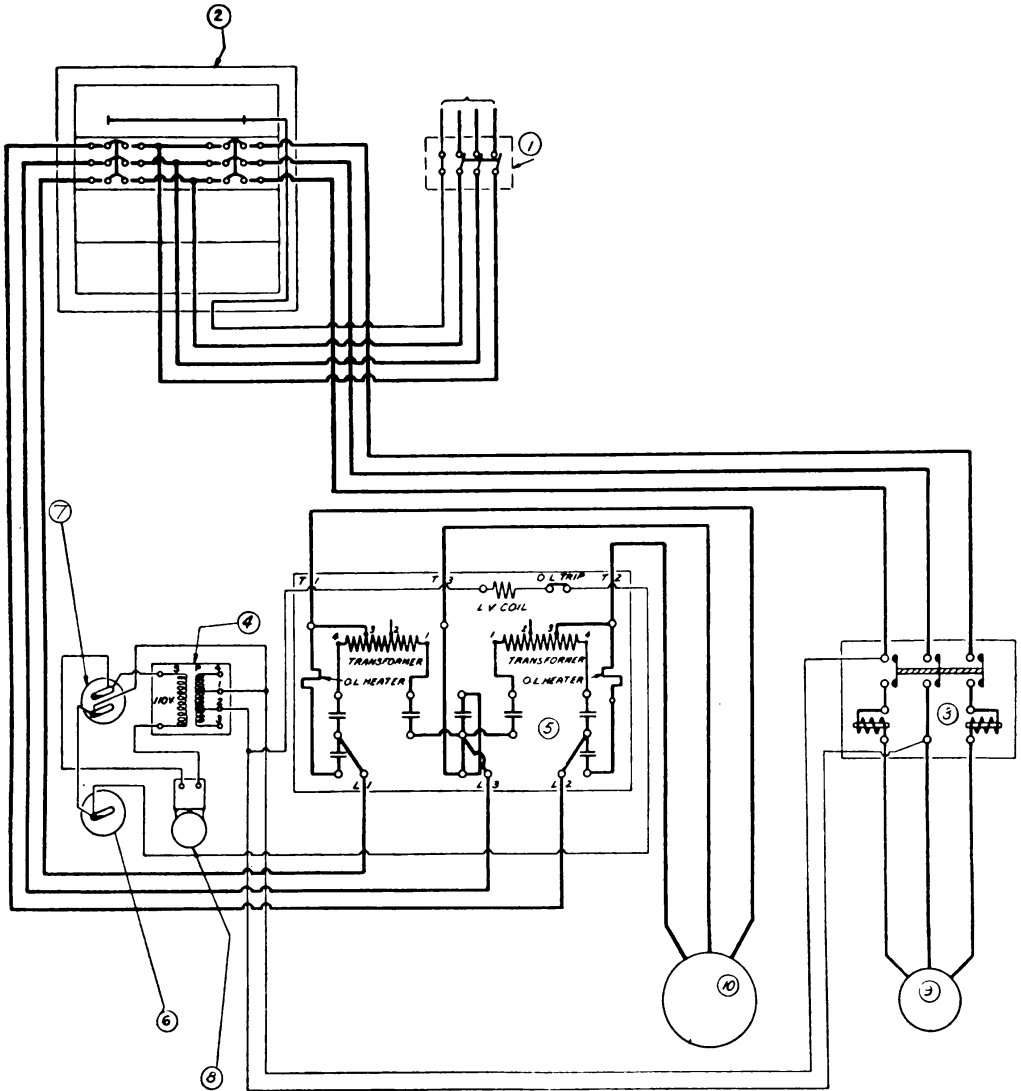

FIG. 22
Where the ice plant is located so that the source of water supply is from a remote pressure system, the cooling tower and condenser water pump are not required. (Fig. 22.)
are not needed and are eliminated from the wiring circuit. In addition, the two wires leading to the control circuit should be tied into the middle lower terminal and upper left-hand terminal of starter (3) as shown in Fig. 22. By this method the compressor motor cannot be started until the agitator motor (9) is placed in operation.
## REFERENCE PARTS, FIG. 22